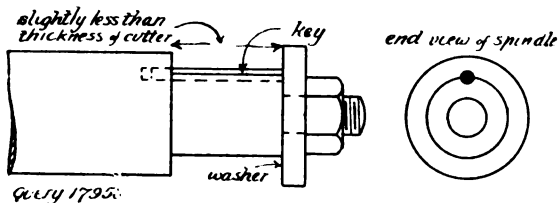

FIG. 2.—MILLING SPINDLE FOR USE BETWEEN LATHE CENTRES.
(1) The cutters should be a dead fit on the spindle. The spindle should have an ample shoulder against which the cutter can bear. The cutter may be fixed by a central screw and washer. A nut working on a projecting end to the spindle for use between centres may, of course, be employed, as in Fig. 2, but a screw takes up less room. Where a projection is undesirable, a countersunk screw
You can run as suggested, but if you wish to reverse the direction of car movement it is necessary to make the motor with a permanent field-magnet or to separately excite the field-magnet from a small battery carried on the car. The above illustrations will explain. This is the arrangement with permanent magnet or separately excited motor. By reversing the direction of current the motion of car will reverse. If the motor has a wound field-magnet the coils are connected as shown in Fig. 2. The contact spring to rail must be insulated if any other part of the wiring makes contact with the car in such a way that the passage of the current would be short-circuited. Speed control can be effected by causing the controller to switch in resistance wire in the circuit (see our handbook No. 14). If you use an ordinary series-wound motor, reversing the direction of flow of current will not reverse the motion of the car. You would have to put a reversing switch on the car itself arranged to change over the connections to the motor brushes, so that the current flows in a reverse direction through the armature only. Regarding supply of current, if you can get them recharged easily accumulators would probably be the more convenient. It is absolutely necessary, however, not to allow them to stand in a discharged condition. A small gas engine and dynamo would be, perhaps, the cheapest if you are going to do a great deal of running; failing either of these, you can use primary batteries (bichromate pattern). Have them as large as possible,